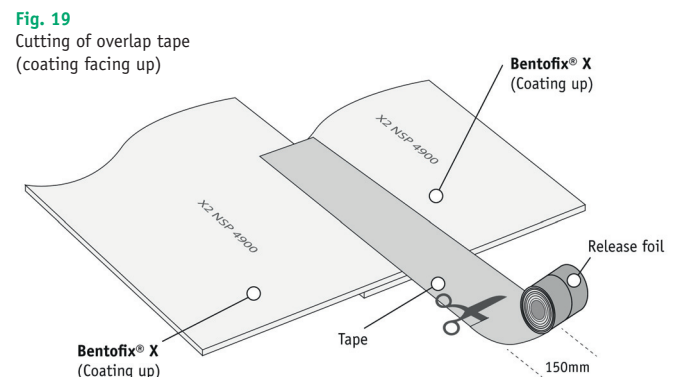

Fig. 19
17.20 Once the tape attachment process is finished or has to be interrupted, simply use a cutter knife or suitable scissor (best with titane anti adherent surface) to cut the tape (fig. 19). If the taping is continued, simply overlap the already placed tape 150mm and ensure the same surface conditions as described.